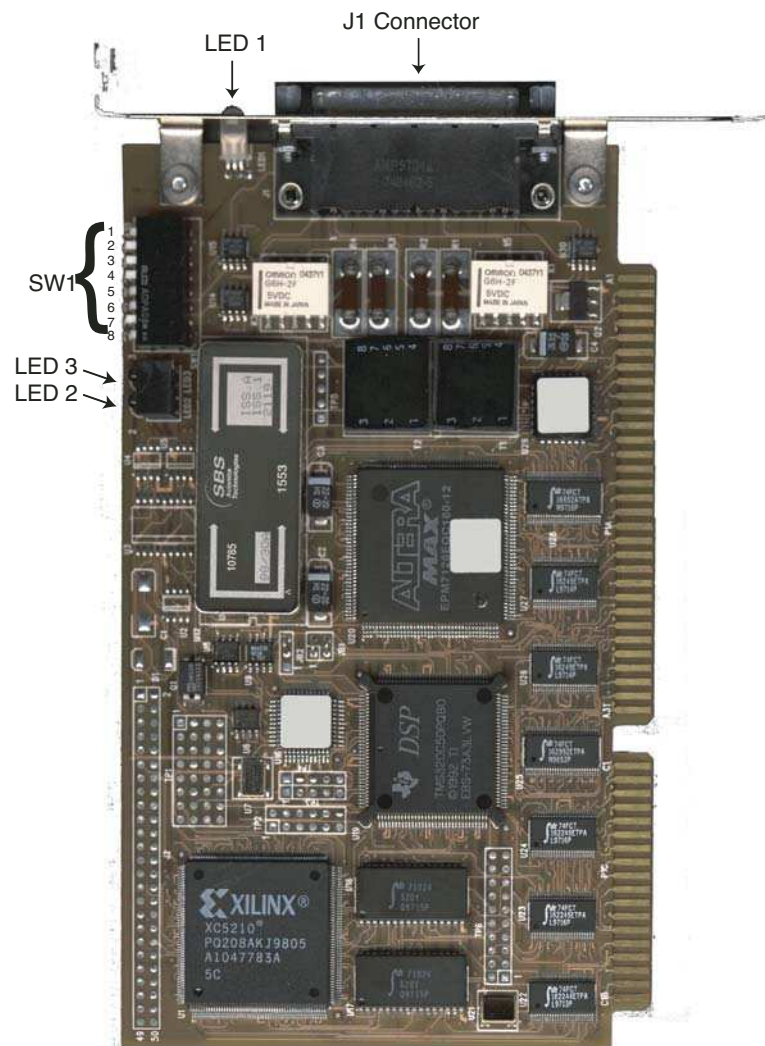
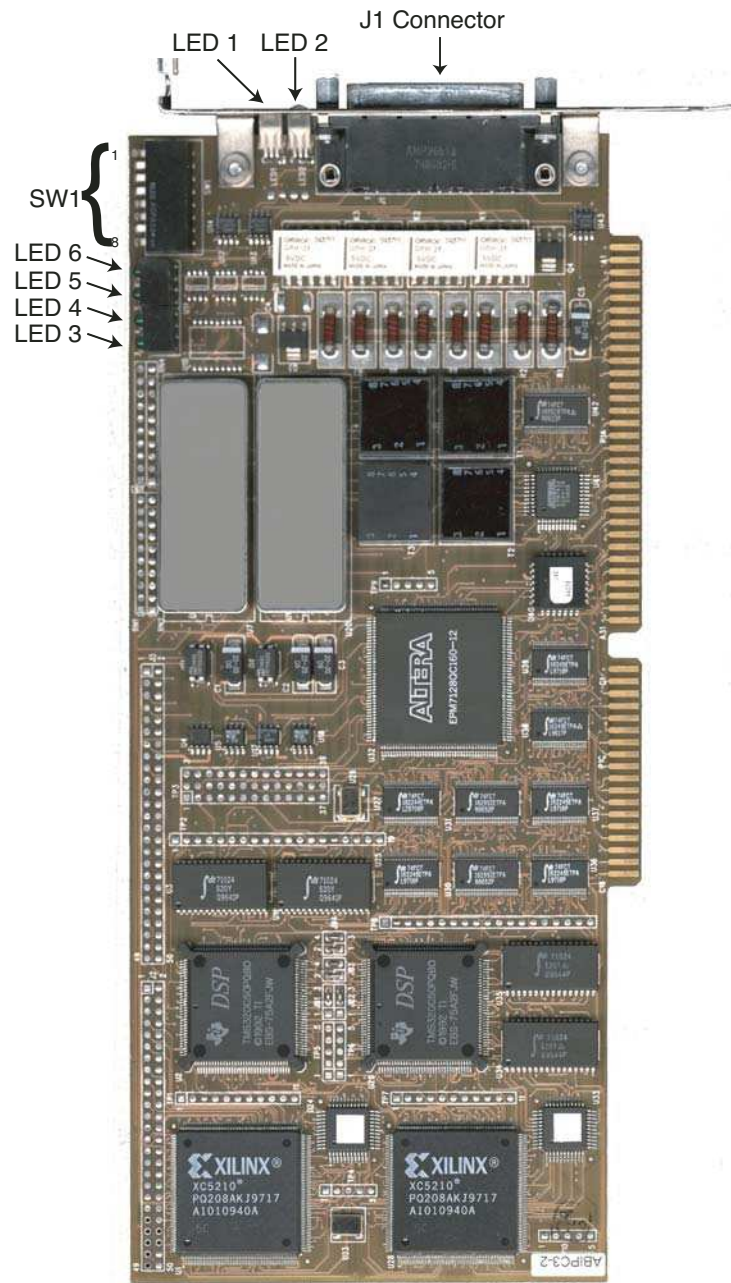

Figure 4.3.1: Single-Device PC3 Layout
Figure 4.3.2: Dual-Device PC3 Layout
2. Locate the LEDs on the top of the installed PC3. See Figure 4.3.1 for the single-channel PC3 LEDs location. See Figure 4.3.2 for the dual-channel PC3 LEDs location.